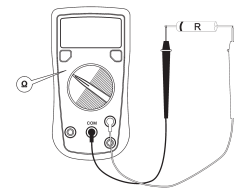

figure 4
D. Resistance Measurement (see figure 4)